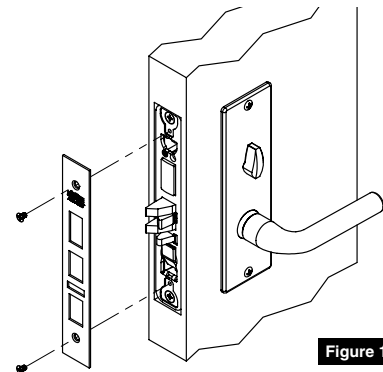

Figure 16
9. Install armored front. (Figure 16)